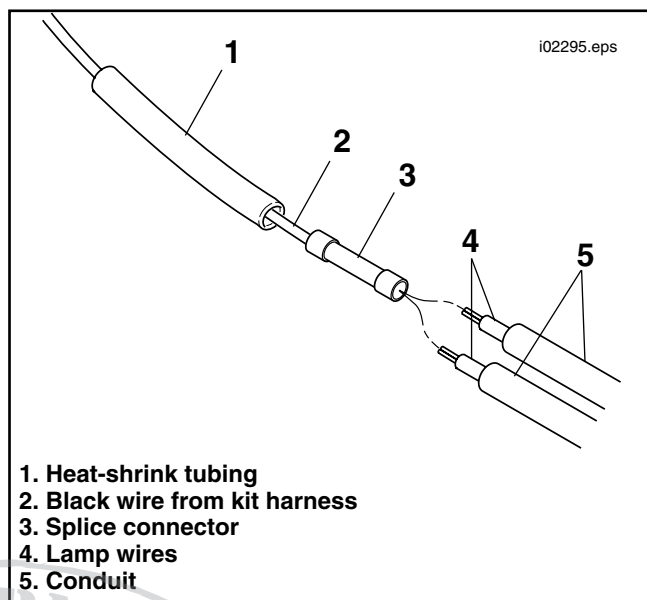

Figure 9. Connect the Lamp Wires to the Kit Harness
1. See Figure 9. Route the unterminated black wire (2) from the harness to the 2 lamp wires and slide heat shrink tubing over the black wire.